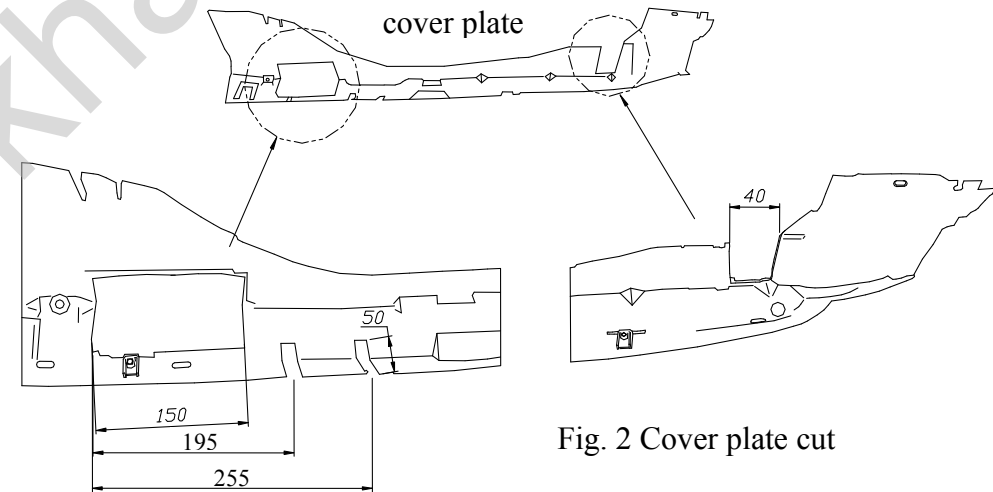
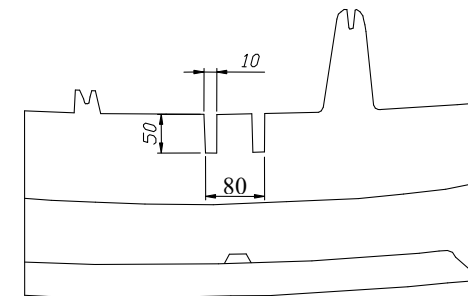

Fig. 2 Cover plate cut
Fig. 3 Bumper cut.
2. In factory prepared places fix side brackets (pos. 3 and 4) using bolts M10x35mm pos. 7 (loosely).
3. Assemble cover plate, before install cut out his fragments according to figure 2.
4. Put main bar of the towbar pos. 1 between fixed side brackets and twist on bolts M12x35mm (pos. 6).
6. Assemble the bumper, before assemble cut out his fragments according to figure 3.
7. Fix the socket plate (pos. 18) as shown on the drawing.
9. Fix the socket plate (pos. 5) as shown on the drawing.